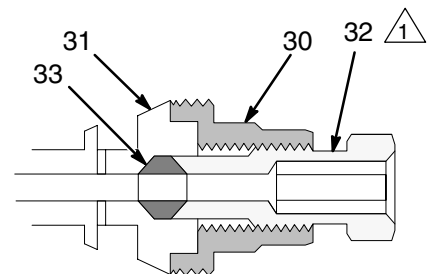

Fig. 7
5. Slide the packing nut (32), nozzle retainer (30), and packing (33) onto the needle (34). Screw the packing nut (32) into the nozzle retainer (30) until the top thread of the packing nut is flush with the back of the retainer. See Fig. 7.